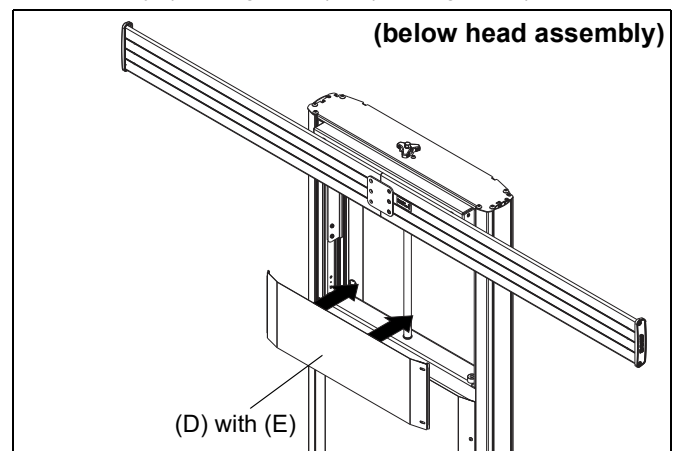
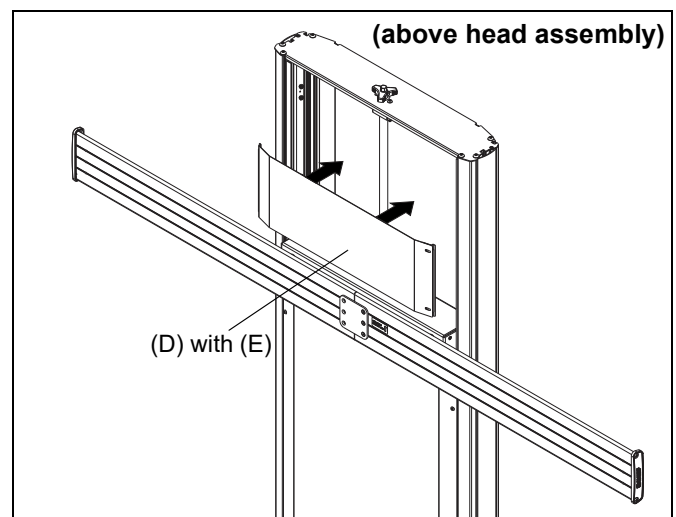

Figure 10
Figure 11
3. Install dual screen cover (D) with slide bracket (E) attached into open area of column assembly, above or below head assembly. (See Figure 10) or (See Figure 11)